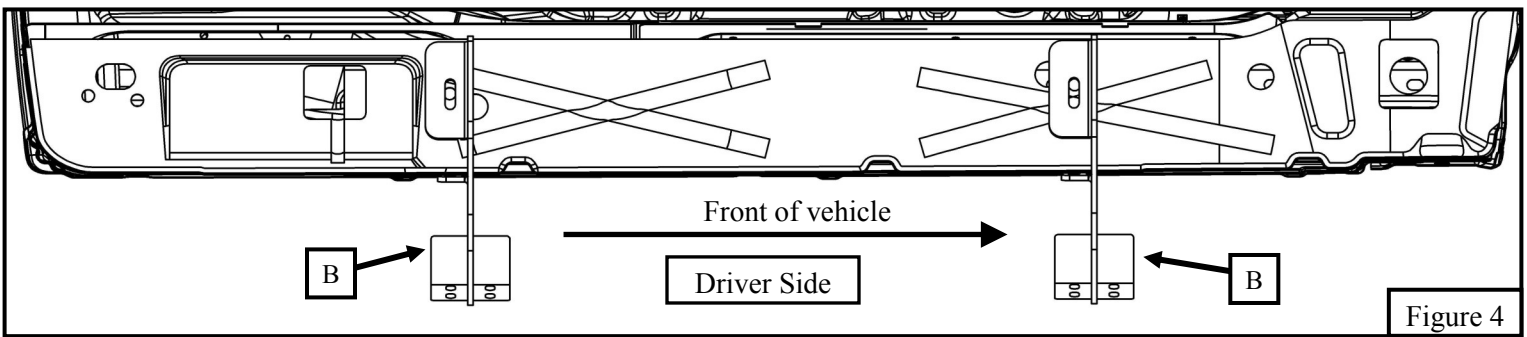

Figure 4
3. Take the mounting brackets and install the bracket and associated hardware loosely to its corresponding positions see **Figures 4, 5, 6, and 7**. Brackets used for passenger side are (1) bracket C (Item 3) and (1) bracket D (Item 4). The driver side will use the remaining (2) bracket B (Item 2). Do not fully tighten hardware at this time. **Note:** bracket location is critical.